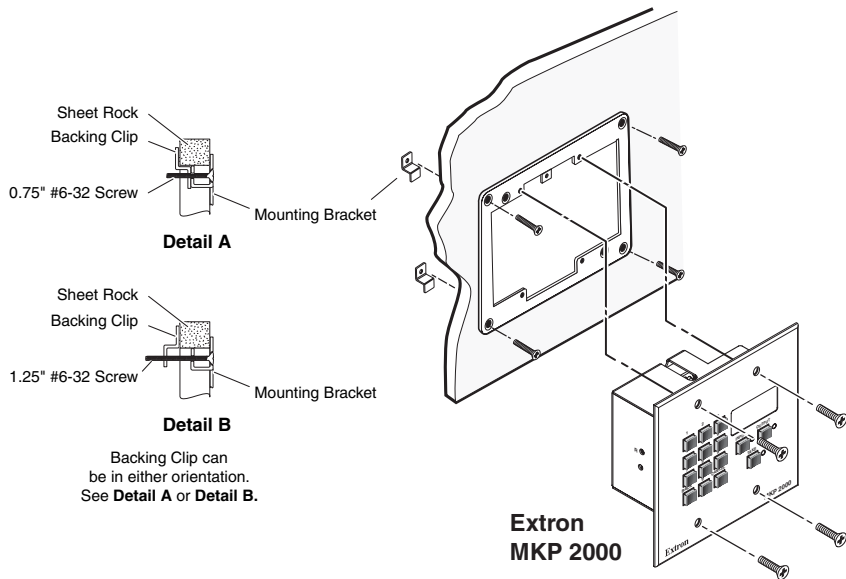

Figure 2-3 — Attaching a mud ring to a wall
- 7a. If you are using a mud ring, follow the directions, if any, that came with the mud ring to attach the clips that fasten the ring to the wall or furniture (figure 2-3).